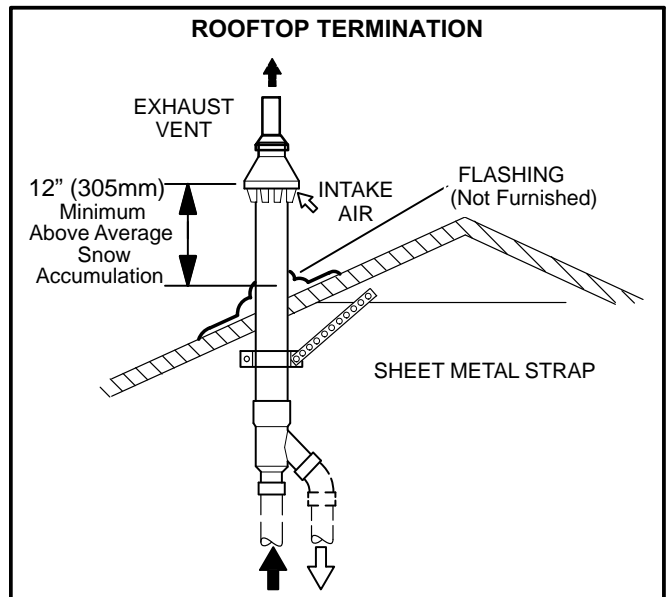

FIGURE 5
- 4 - Slide field-provided flashing over pipe and secure flashing to roof as shown in figure 5. Seal around flashing to make sure it is weather-tight.